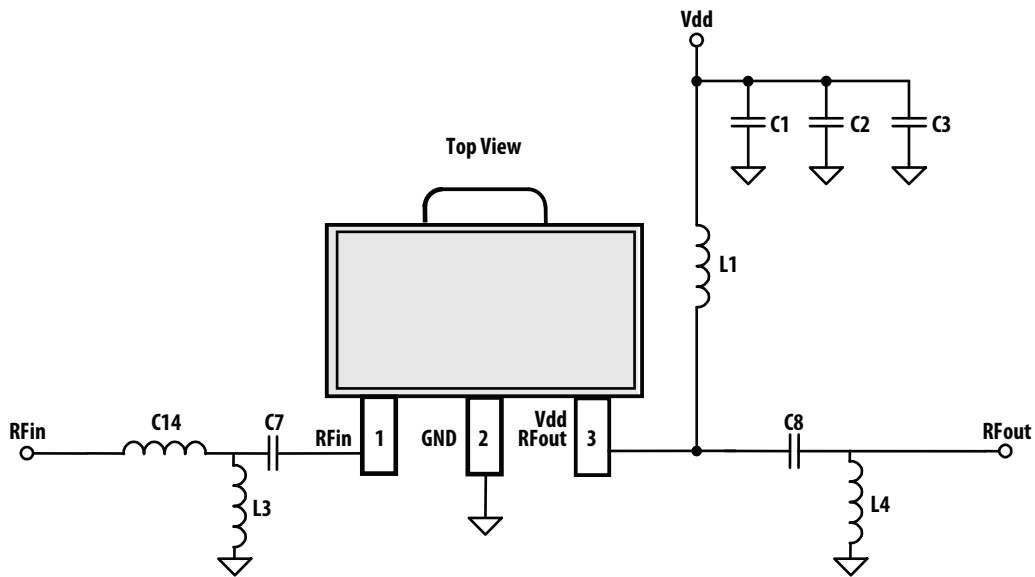

Figure 30. Application Schematic
1. Measurements obtained using demo board described in Figure 30 and 31. 3.5GHz data was taken with 3GHz - 4GHz Application Test Circuit and 5GHz data with 4GHz - 6GHz Application Test Circuit respectively.
$T_A = 25^\circ\text{C}$ ,  $V_{dd} = 5\text{V}$ , Input Signal = CW unless stated otherwise. Application Test Circuit is shown in Figure 30 and Table 1.
TA = 25°C, Vdd = 5V, Input Signal = CW unless stated otherwise. Application Test Circuit is shown in Figure 30 and Table 1.
TA = 25°C, Vdd = 5V, Input Signal=CW. Application Test Circuit is shown in Figure 30 and Table 2.
TA = 25°C, Vdd = 5V, Input Signal=CW. Application Test Circuit is shown in Figure 30 and Table 3.